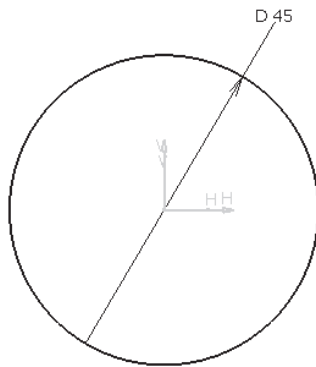

Figure 10-73 The sketch of the blended section
- Create the blended surface, refer to Figures 10-73 and 10-74.
2. Draw the sketch of the blended section, as shown in Figure 10-73. In this figure, the display of the previously created surfaces has been turned off.